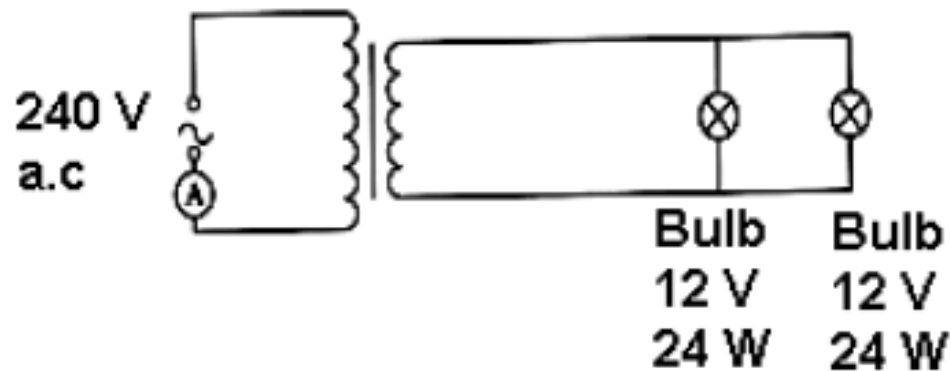

Figure 12.2
- (d) Figure 12.2 shows a circuit consisting of a transformer, an ammeter and two light bulbs. The ammeter reading is 0.5 A and both bulbs light up with normal brightness.